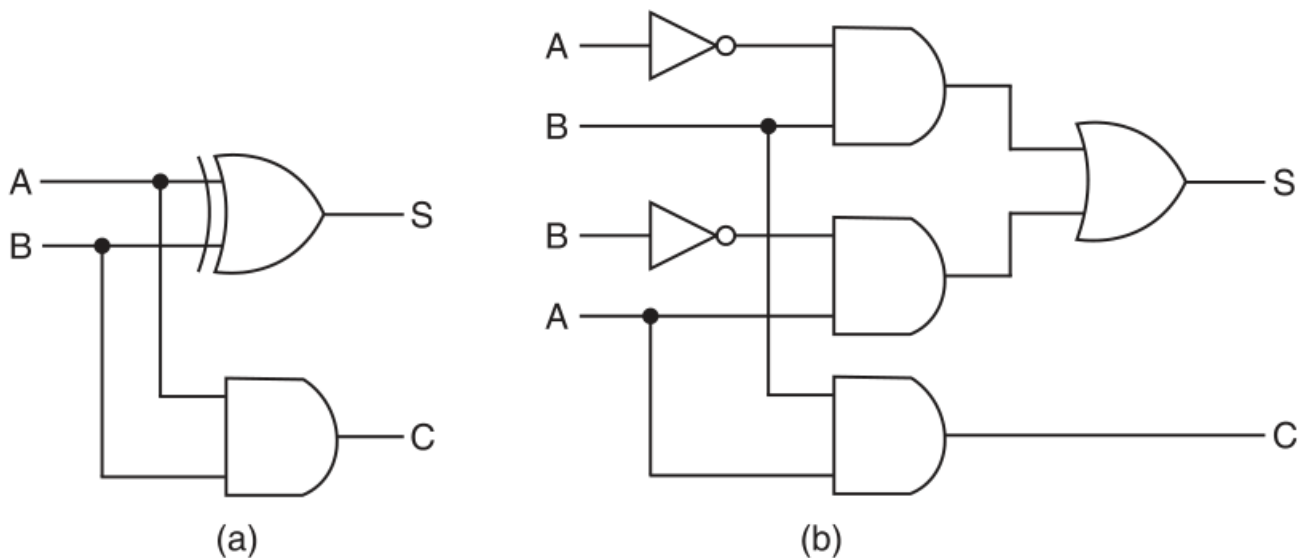

Figure 7.3 Logic diagrams of half-adder.
- **Authentic Diagram (Kumar, p. 359, Figure 7.3):**